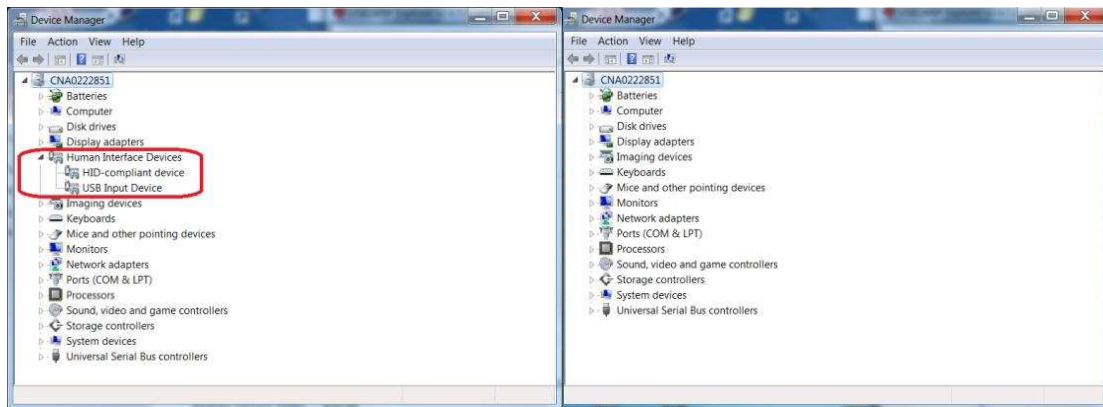

Figure 8. Device Manager
- (e) After the firmware has been successfully loaded and the USB2ANY has been recognized by the PC, a single "Human Interface Devices" entry becomes visible within the *Device Manager* window on the PC (see Figure 8). The right-side window in Figure 8 shows how the *Device Manager* appears if the board has not been successfully connected to the PC